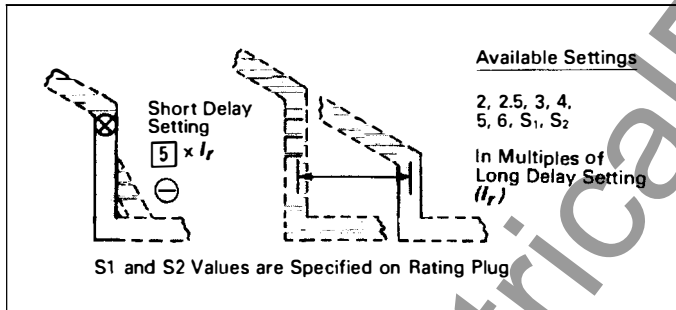

Fig. 4.3 Short Delay Current Settings
There are eight (8) available Short Delay Current Settings, as illustrated in Fig. 4.3. Six settings are in the range from 2 to 6 times I_r , and the other two settings are "S1" or "S2" times I_r . (REMEMBER: I_r is the Long Delay Current Setting). The values that "S1" and "S2" have depend upon the type of circuit breaker, and are specified both on the rating plug label (see Fig. 6), and on the applicable Time-Current Curves referenced in Section 9.0.